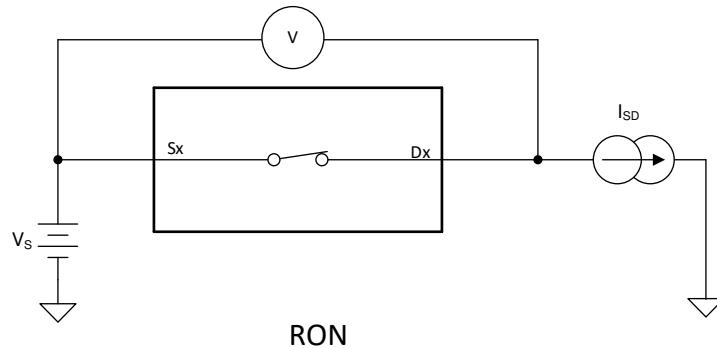

図 6-1. On-Resistance
The on-resistance of a device is the ohmic resistance between the source (Sx) and drain (Dx) pins of the device. The on-resistance varies with input voltage and supply voltage. The symbol R_{ON} is used to denote on-resistance. **図 6-1** shows the measurement setup used to measure R_{ON} . Voltage (V) and current (I_{SD}) are measured using the following setup, where R_{ON} is computed as $R_{ON} = V / I_{SD}$: